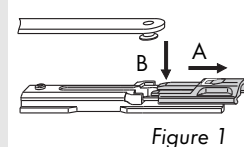

Figure 1
- L** Position tilt-only hinge LM 4200 (2) according to the specifications on page 6 and fasten using countersunk-head screw M5 x 7 (Torque 2.5 ± 0.25 Nm).
- Position strikers (3) as specified on page 7 and clamp each with grub screws (threaded pins) (Torque 1.5 ± 0.25 Nm).
- A** Slide back the retainer (14) as shown in figure 1.
- B** Attach the tilt sash stay (15), figure 1.